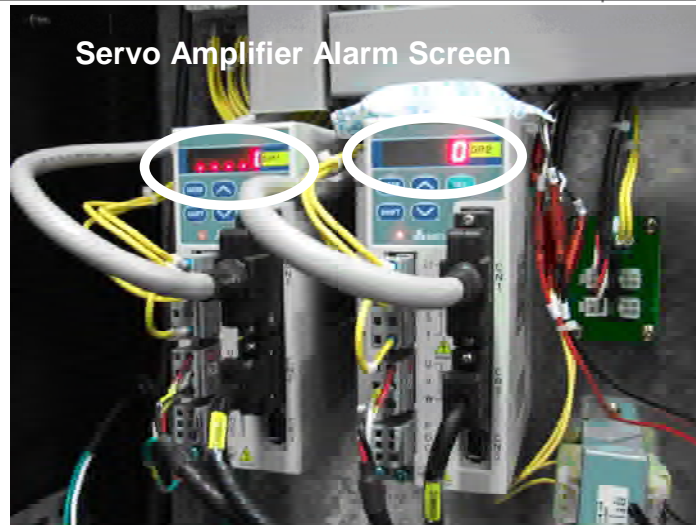

Fig. 6-8 Motor Servo Amplifier
**Step 5** : Please see the alarm code on the servo amplifier screen (Fig. 6-8), then follow the below list to eliminate the error.